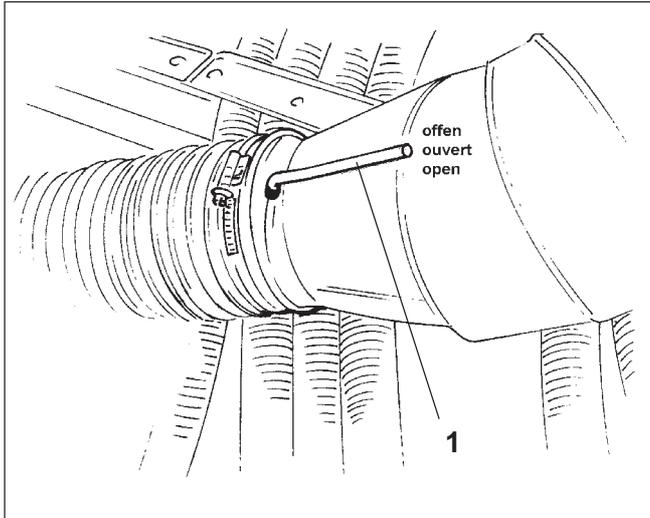

Fig. 20.9
The throttle flap (Fig. 20.9/1) can be brought into two positions:
- open:** (see Fig. 20.9)